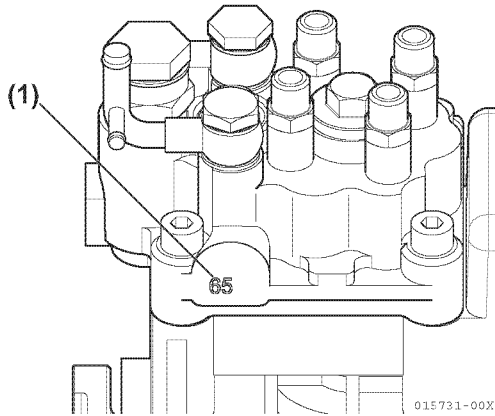

Figure 6-65
NOTICE: If installing a new or recalibrated fuel injection pump, record the timing index number located on the pump housing boss on the engine side of the new or recalibrated fuel injection pump (**Figure 6-65, (1)**). This number will be used to calculate and adjust the final fuel injection timing.